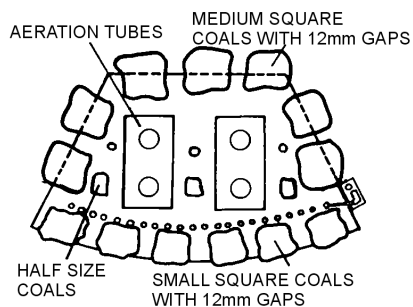
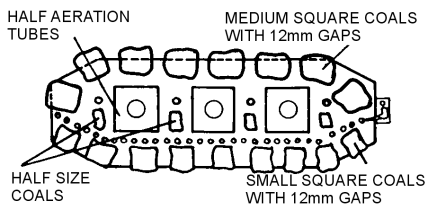
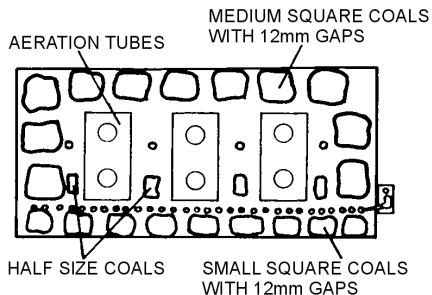

Figure 27 - Bowed Tray - Coals Layer 1
Figure 29 - Oval Tray - Coals Layer 1
Figure 31 - Rectangular Tray - Coals Layer 1
1. With reference to **Figure 27, Figure 29** or **Figure 31** unpack the **small square coals** and place them along/around the burner tray leaving equal spaces between them, taking care not to cover any gas ports.